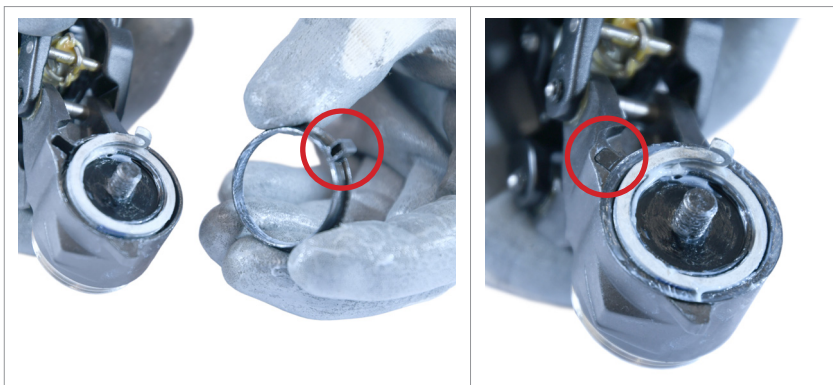

Fig.1
1) Insert the sealing ring, making sure it is positioned correctly (Fig.1).